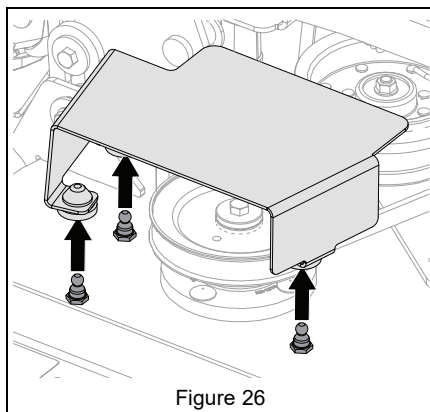

Figure 26
4. Lift belt covers to remove from mower deck. See Figure 26.